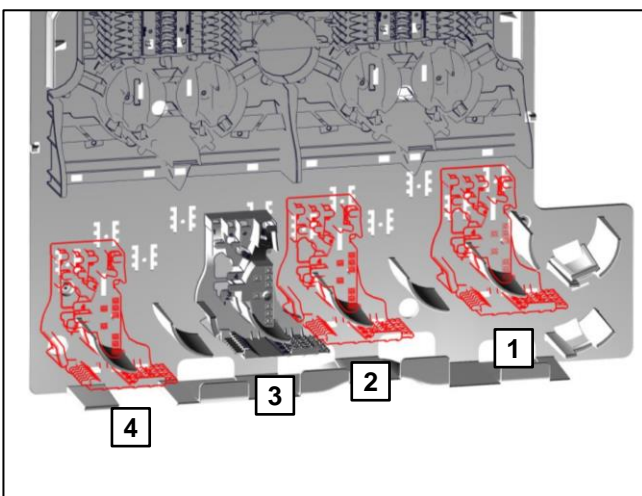

Fig. 26
- The cable organiser access (1) can be mounted in four different positions (see Fig. 26).